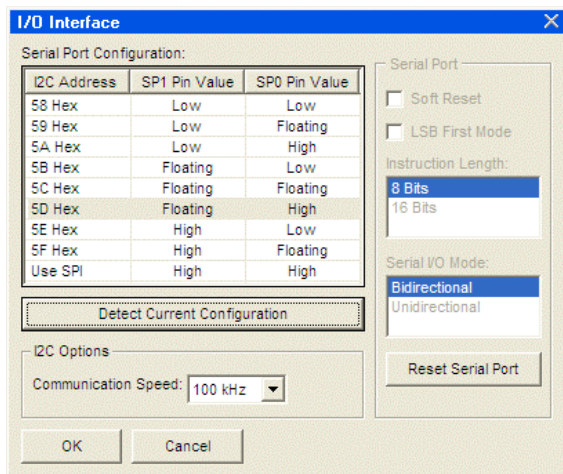

Figure 28. AD9522 Evaluation Software Serial Port Configuration
5. Repeat Step 4 for both the **sclk_scl** pin and **gnd** pin of the AD9522 evaluation board to the SCL pin and ground pin of the target board, respectively. On the evaluation software, select **Configure Serial Port** from the I/O menu. This window is shown in Figure 28.